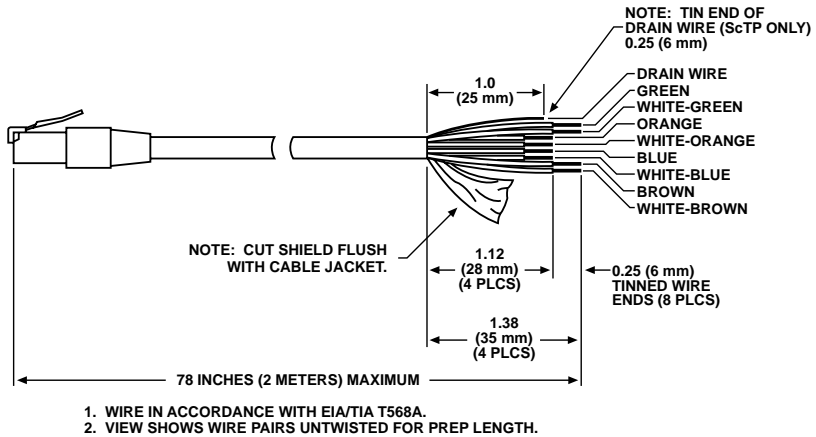

Figure D-2. Cable Preparation per EIA/TIA T568A.
3. Arrange the cable and wire pairs as shown in Figure D-2. Do not untwist the pairs any more than required to strip the wire ends.